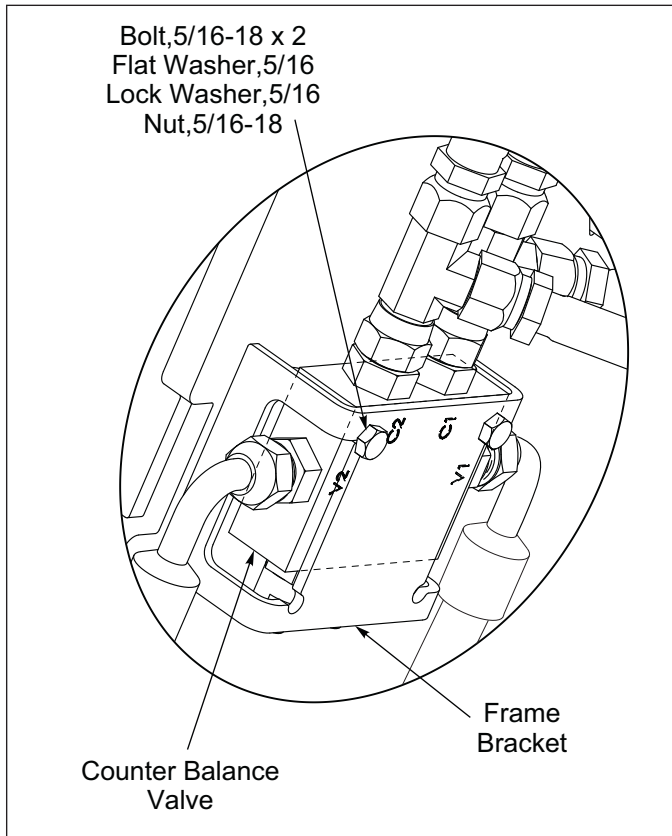

Figure 2-24: Counter Balance Valve
1. Attach the Counter Balance Valve to the inside frame bracket with 5/16-18 x 2 Bolt, Flat Washer, Lock Washer and Nut. **See Figures 2-24 and 2-25.**